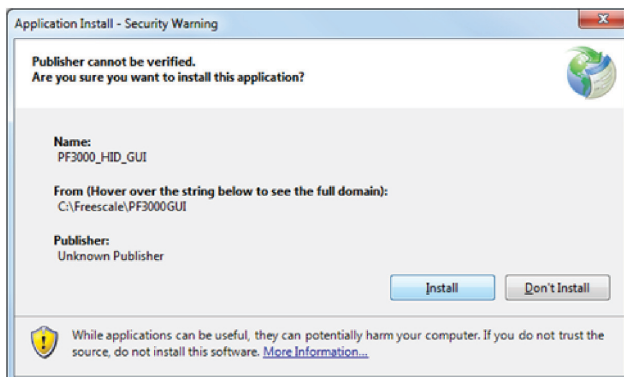

Figure 3. Install Dialog Box
3. Run setup.exe and click on "Install" in the dialog box in Figure 3.